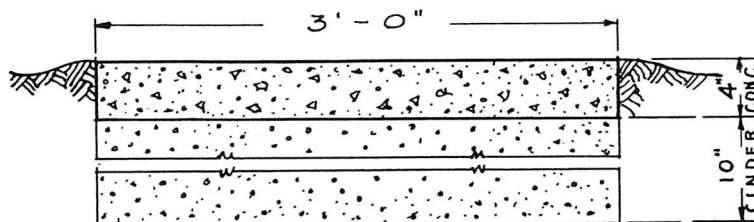

Fig. 3
- Figure 3, shows a cross section of a concrete side walk. How many cubic yards of earth does it displace, if the walk is 40'-0" long?